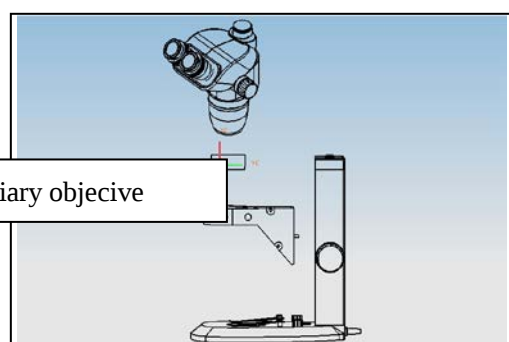

Fig.6
- (1) connect the Auxiliary objective to the thread at the bottom of the head.
- (2) 0.5x Auxiliary objective with long working distance, when use 0.5x auxiliary objective, release the lock screw on the arm by a six mao spanner, use after move a bit hole. (Fig 6)